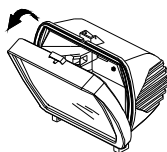

FIGURE 14
2) Pull down the front surround which is mounted on hinges and will swing open (FIGURE 14).